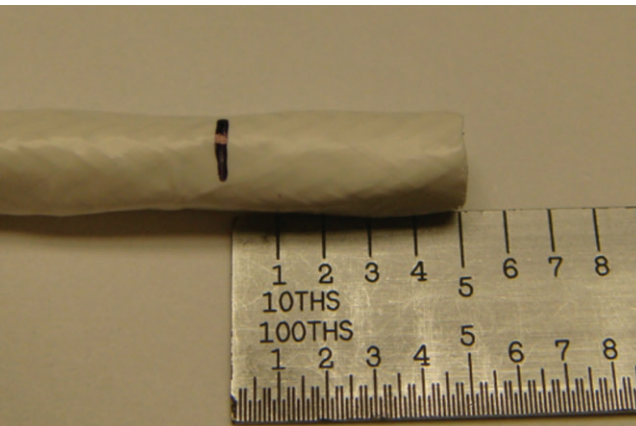

Figure 7: Marking the cable
2. Measure and mark the cable 0.5 inch from its end (Figure 7).